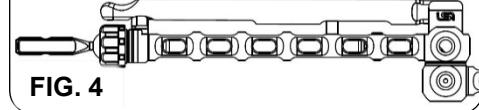
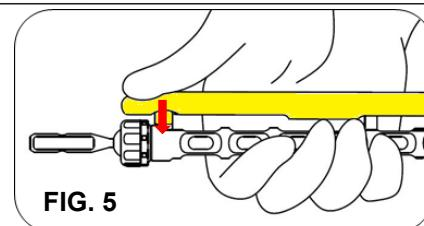

FIG. 4
FIG. 5
3. If the *CLICK RELEASE™* lever is in the locked position (FIG. 4), release the lock by fully squeezing the lever (FIG. 5) until an audible click indicates that the lever latch is disengaged from the locking catch. If necessary, manually raise the *CLICK RELEASE™* lever away from the upper arm.